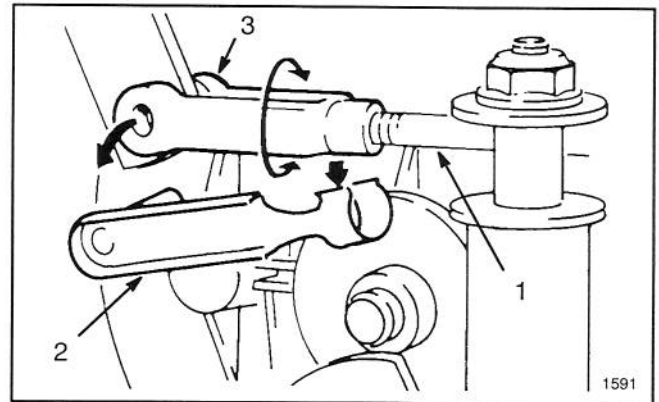

Figure 18
14. Locate deck engagement rod end on left side of transmission (Fig. 18). Remove clevis pin retainer and rotate clevis to lengthen or shorten rod until desired clearance between belt and pulley is attained.